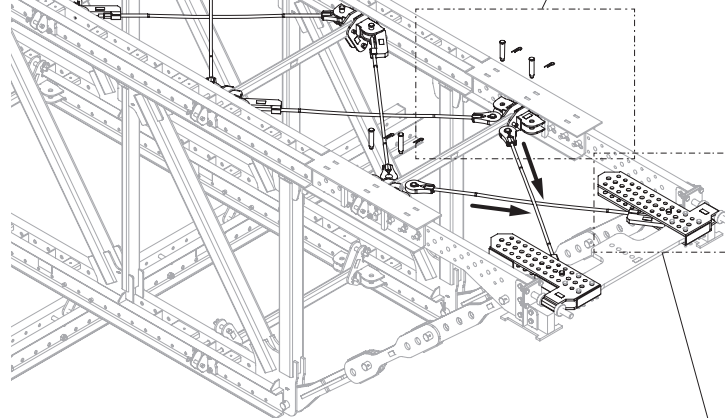

Fig. B2.14
1. Insert the tie rod (21) into the articulated spanner.
2. Screw the nut (63) onto the tie rod until it no longer protrudes.
4. Swivel the eye nut (19) diagonally opposite into the bracing connector (12) or vertical bracing shoe (13). (Fig. B2.14)
5. Fix the eye nut in position with bolts (57) and secure with cotter pins (50).